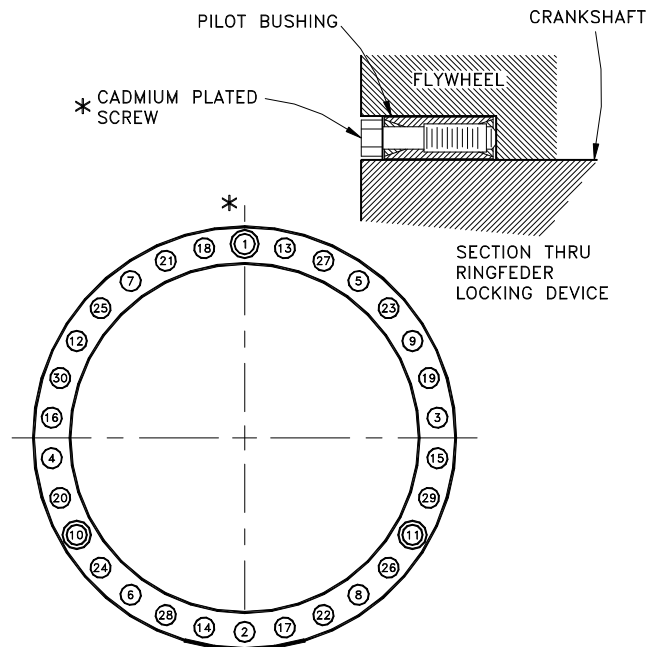

FIGURE 1
1. Secure the flywheel with proper lifting equipment (nylon straps). Using a 14mm hex wrench gradually loosen the ringfeder socket screws in several stages, following the tightening sequence (see figure 1) until all screws are loose (do not completely remove the screws).
The tightening sequence (see figure 1) must be followed for all three stages.